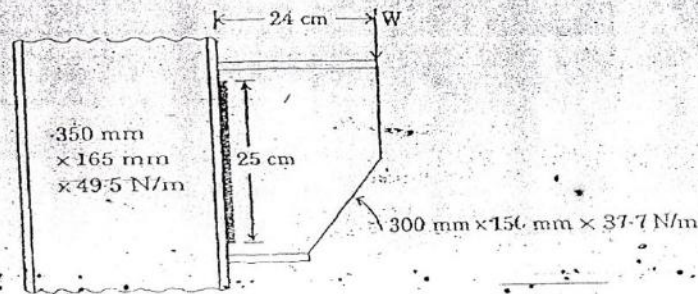

Fig. 3
- (b) Calculate the maximum load that the bracket shown in Fig. 3 can carry if the size of the weld on flange is 8 mm and that on the web is 5 mm. The allowable shear stress is 102.5 N/mm^2 . 18